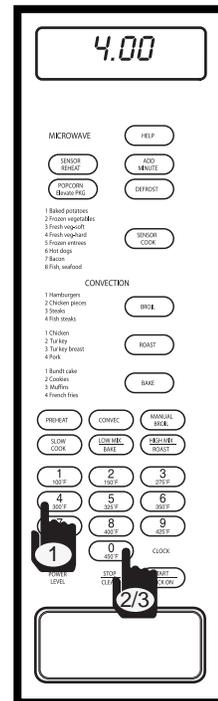

Figure 3-28.
1. Enter desired cooking time duration. For example: 4 minutes; press the number 4 key, and number 0 key twice (See Figure 3-28), and the display will flash “4.00 - PRESS - START - OR - PRESS - POWER - LEVEL”.